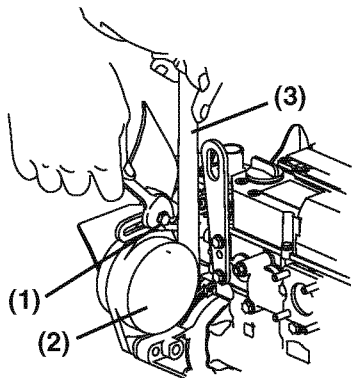

Figure 5-5
- If necessary, adjust the V-belt tension. Loosen the adjusting bolt (Figure 5-5, (1)) and move the alternator (Figure 5-5, (2)) with a pry bar (Figure 5-5, (3)) to tighten the V-belt to the desired tension. Then tighten the adjusting bolt.